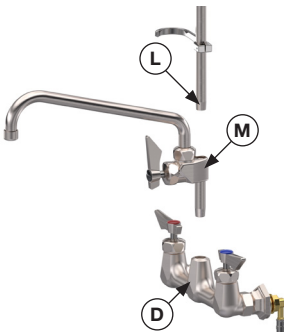

Figure 2
7. Install the faucet body (D) onto the coupling flanges and tighten properly with a wrench. If the faucet does not fit on the coupling flanges, they will need to be rotated to fit the faucet as per step 4 above.
8. Install the pre-assembled add-on faucet body and spout (M) onto the faucet body (D) (Figure 2).